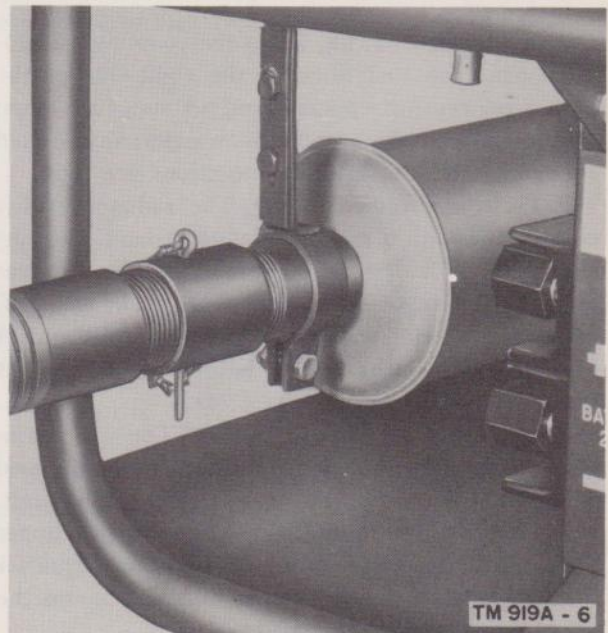

Figure 6. Exhaust tube connection to muffler.
b. Connecting Exhaust Tube. For indoor operation, connect the exhaust extension tube to the muffler (fig. 6). Extend the tube to an exterior wall by the most direct route with as few turns as possible. Pitch the tube downward so all condensate will